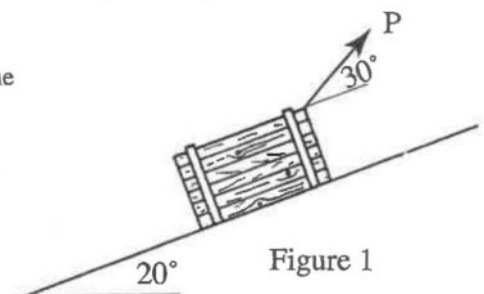

Figure 1
- Calculate the force P if the block is just on the verge of moving up the plane when P acts away from the plane as shown in figure 1.